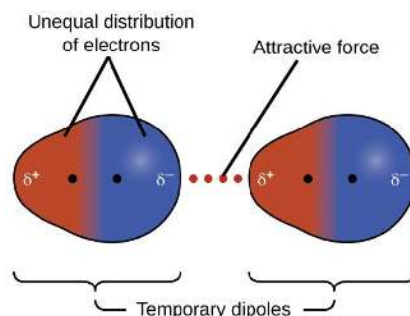

Figure 3.1.2.5: Dispersion forces result from the formation of temporary dipoles, as illustrated here for two nonpolar diatomic molecules.
The differences in the properties of a solid, liquid, or gas reflect the strengths of the attractive forces between the atoms, molecules, or ions that make up each phase. The phase in which a substance exists depends on the relative extents of its intermolecular forces (IMFs) and the kinetic energies (KE) of its molecules. IMFs are the various forces of attraction that may exist between the atoms and molecules of a substance due to electrostatic phenomena, as will be detailed in this module. These forces serve to hold particles close together, whereas the particles’ KE provides the energy required to overcome the attractive forces and thus increase the distance between particles. Figure 3.1.2.1 illustrates how changes in physical state may be induced by changing the temperature, hence, the average KE, of a given substance.
Figure 3.1.2.1: Transitions between solid, liquid, and gaseous states of a substance occur when conditions of temperature or pressure favor the associated changes in intermolecular forces. (Note: The space between particles in the gas phase is much greater than shown.)
As an example of the processes depicted in this figure, consider a sample of water. When gaseous water is cooled sufficiently, the attractions between H_2O molecules will be capable of holding them together when they come into contact with each other; the gas condenses, forming liquid H_2O . For example, liquid water forms on the outside of a cold glass as the water vapor in the air is cooled by the cold glass, as seen in Figure 3.1.2.2
Figure 3.1.2.2: Condensation forms when water vapor in the air is cooled enough to form liquid water, such as (a) on the outside of a cold beverage glass or (b) in the form of fog. (credit a: modification of work by Jenny Downing; credit b: modification of work by Cory Zanker)
We can also liquefy many gases by compressing them, if the temperature is not too high. The increased pressure brings the molecules of a gas closer together, such that the attractions between the molecules become strong relative to their KE. Consequently, they form liquids. Butane, C_4H_{10} , is the fuel used in disposable lighters and is a gas at standard temperature and pressure. Inside the lighter's fuel compartment, the butane is compressed to a pressure that results in its condensation to the liquid state, as shown in Figure 3.1.2.3
Figure 3.1.2.3: Gaseous butane is compressed within the storage compartment of a disposable lighter, resulting in its condensation to the liquid state. (credit: modification of work by "Sam-Cat"/Flickr)
Under appropriate conditions, the attractions between all gas molecules will cause them to form liquids or solids. This is due to intermolecular forces, not *intramolecular* forces. *Intramolecular* forces are those *within* the molecule that keep the molecule together, for example, the bonds between the atoms. *Intermolecular* forces are the attractions *between* molecules, which determine many of the physical properties of a substance. Figure 3.1.2.4 illustrates these different molecular forces. The strengths of these attractive forces vary widely, though usually the IMFs between small molecules are weak compared to the intramolecular forces
Figure 3.1.2.4: Intramolecular forces keep a molecule intact. Intermolecular forces hold multiple molecules together and determine many of a substance's properties.
One of the three van der Waals forces is present in all condensed phases, regardless of the nature of the atoms or molecules composing the substance. This attractive force is called the London dispersion force in honor of German-born American physicist Fritz London who, in 1928, first explained it. This force is often referred to as simply the dispersion force. Because the electrons of an atom or molecule are in constant motion (or, alternatively, the electron's location is subject to quantum-mechanical variability), at any moment in time, an atom or molecule can develop a temporary, instantaneous dipole if its electrons are distributed asymmetrically. The presence of this dipole can, in turn, distort the electrons of a neighboring atom or molecule, producing an induced dipole. These two rapidly fluctuating, temporary dipoles thus result in a relatively weak electrostatic attraction between the species—a so-called dispersion force like that illustrated in Figure 3.1.2.5